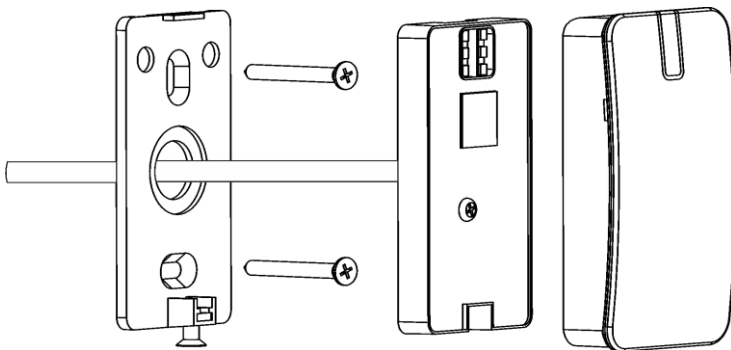

Figure 3
- Insert the reader in the back plate (see fig. 3).